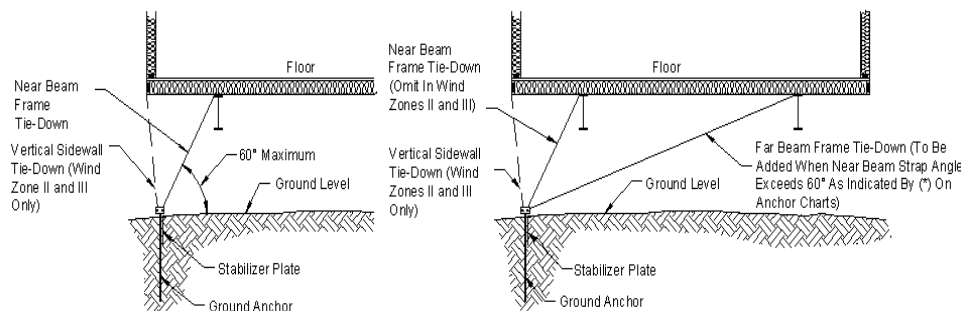

Figure 72. Lateral tie-down configurations
* Indicates a configuration that will require the frame strap connected to the far beam (see Figure 72).
There are two primary tie-down configurations: the near beam method and the far beam methods. If the anchor spacing selected in the appropriate anchor table (**Table 22**, **Table 23** or **Table 24**) has an asterisk (*) then use the far beam method. Otherwise, use the near beam method (**Figure 72**). Each method varies by wind zone as described below.